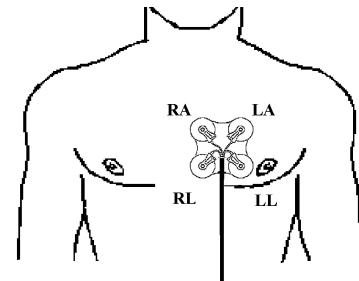

Figure 4-2. Electrode Placement
- (1) Use only Invivo Research Quadtrode[®] MRI ECG Electrode Pad (IRI Part Number 9303N). Never use alcohol to prepare the skin for electrode application, as it removes electrolytes required for good electrode contact. Electrode Pad may be installed on the chest or back (chest for best monitoring). Careful patient prep is required as ECG will be severely degraded by poor electrode contact. Ensure that the skin in the area of the Quadtrode[®] Pad is dry. Follow the Patient Preparation and Electrode Pad Placement instructions that come with each Quadtrode[®] Pad. (Shave site if necessary, removing any chest hair.) Use skin prep gel (IRI Part Number 9009) for skin preparation. Place Quadtrode[®] Pad directly over the heart (See **Figure 4-2**). Ensure contact resistance is less than 8000 ohms (< 2000 ohms for best results) as measured with the electrode Impedance Meter (IRI Part Number 9392). Connect ECG leadwires and secure cable yoke to Quadtrode[®] Pad with adhesive tab provided on back of Quadtrode[®] Pad. **Cable may become hot during scanning. Always keep patient gown and insulative padding between cable and patient's skin.**
- (2) Large, heavily-breathing patients upon which chest-mounted electrodes and lead wires move vertically with respirations may cause a respiratory artifact on the ECG baseline. Use back mounted electrode setup for better results.
- (3) Use all four leads on the patient. Select the "cleanest" lead for monitoring during scan (I, II, III, AVL, AVR, AVF).
- (4) The "T" wave may become excessively large (due to electromagnetic flow induced voltage at the leads) and may interfere with QRS detection. Try other leads and/or electrode placement for best results.
Patient Preparation and Electrode Pad Placement instructions that come with each Quadtrode[®] Pad. (Shave site if necessary, removing any chest hair. Use skin prep gel (IRI Part Number 9009) for skin preparation.) Place Quadtrode[®] Pad directly over the heart (See **Figure 4-2**). Ensure contact resistance is less than 8000 ohms (< 2000 ohms for best results) as measured with the electrode Impedance Meter (IRI Part Number 9392). Connect ECG leadwires and secure cable yoke to Quadtrode[®] Pad with adhesive tab provided on back of Quadtrode[®] Pad. **Cable may become hot during scanning. Always keep patient gown and insulative padding between cable and patient's skin.**